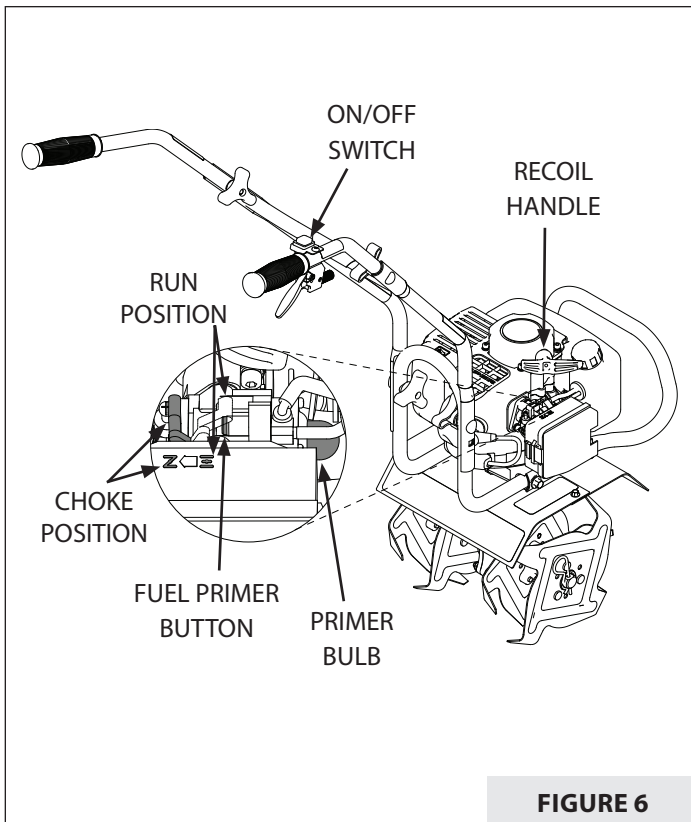

FIGURE 6
2. Move choke lever to the CHOKE position. **SEE FIGURE 6.**
4. While depressing the fuel primer button, push the primer bulb ONCE and release the button. **SEE FIGURE 6.**
- Move choke lever to RUN position and squeeze throttle lever to desired speed. **SEE FIGURE 6.**
1. Before removing the air filter cover, move the choke lever to the **CHOKE** position. **SEE FIGURE 6.**